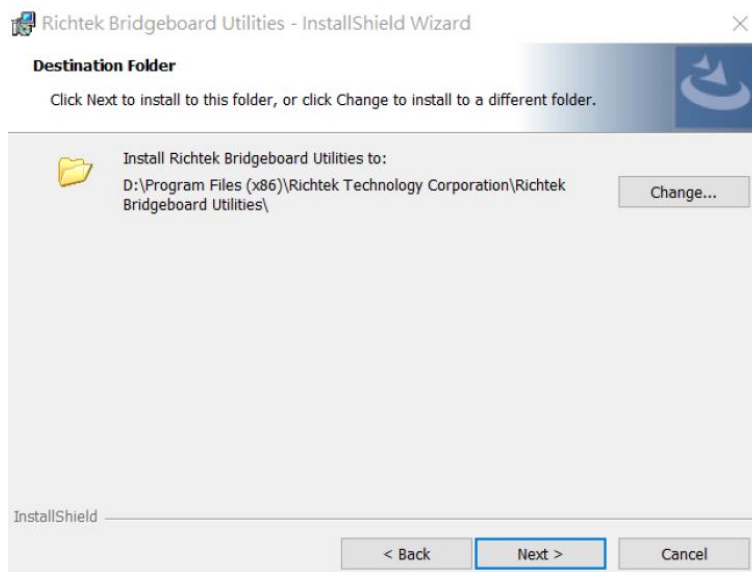

Figure 9. Driver Installation Step 9
Step 9: Figure 9 is a confirmation step to verify the installation path. If the information is correct, click the "Next" button to proceed with the rest of the installation.